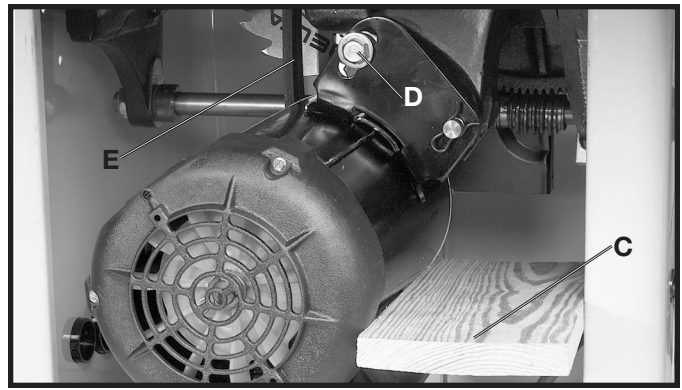
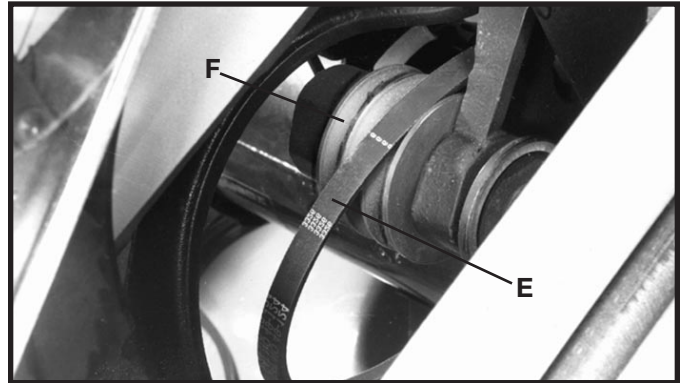

Fig. 74
Fig. 75
2. Place a block of wood (C) Fig. 74, between the motor and saw cabinet as shown. **NOTE:** It may be necessary to raise the saw arbor in order to insert the wooden block. Lower the saw arbor until the motor contacts the wood.
3. Loosen bolt (D) Fig. 74, and continue to lower the saw arbor until all tension is removed from the belts (E). Tighten bolt (D).
4. Raise the saw arbor slightly and remove the block of wood (C) Fig. 74.
5. Lower the saw arbor. Remove the belts (E) Fig. 74, one at a time from the motor pulley.
6. Remove the belts (E) Fig. 75, one at a time from the arbor pulley (F).
7. Assemble the three new belts, one at a time in the grooves of the arbor pulley (F) Fig. 75, and onto the motor pulley.
8. When the new belts are assembled on the arbor pulley (F) Fig. 75 and the motor pulley, loosen screw (D) Fig. 74, and carefully let the motor rest on the belts.
9. Correct belt tension is when there is approximately 1/4" deflection in the center span of the pulleys, using light finger pressure. After tension is applied, tighten screw (D) Fig. 74.